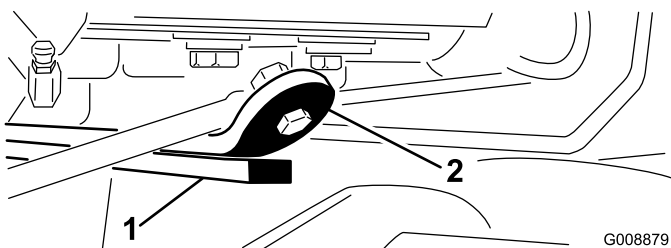

Figure 28
3. Start the engine, raise the lift arms, and check to ensure that the clearance between the wear strap on the top of the rear cutting unit wear bar and the bumper strap is 0.02 to 0.10 inches (0.51 to 2.54 mm) (Figure 28).